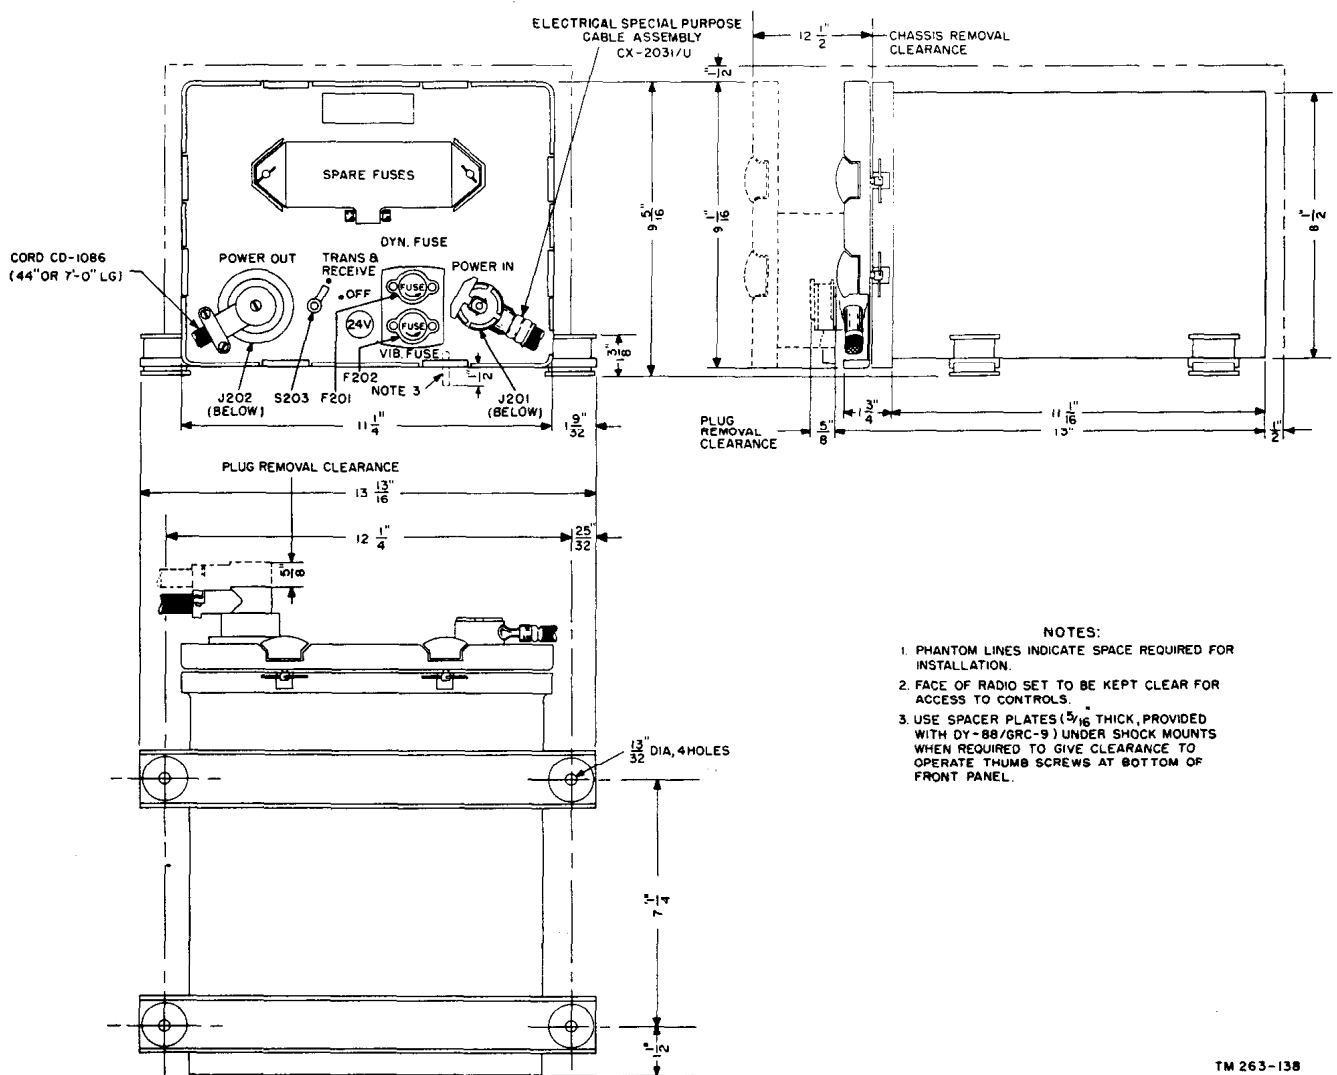

Figure 40. *Dynamotor-Power Supply DY-88/GRC-9, outline dimensions and clearances.*
- (3) Outline dimensions and clearances are shown in figure 40.